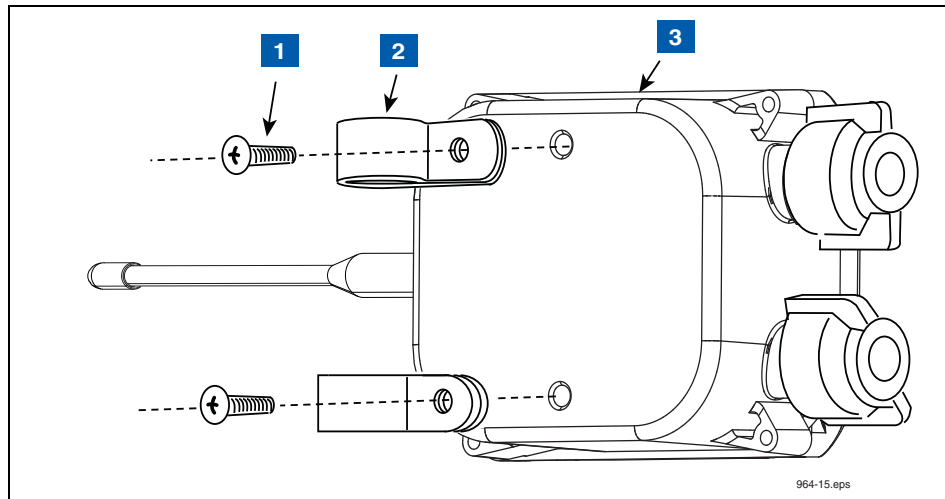

Figure 15. Attaching Conduit Clamps To Transmitter Housing
3. Attach two conduit clamps to the Transmitter as shown in Figure 15. Do not tighten screws at this time.
LEGEND FOR NUMBERED BOXES IN Figure 15